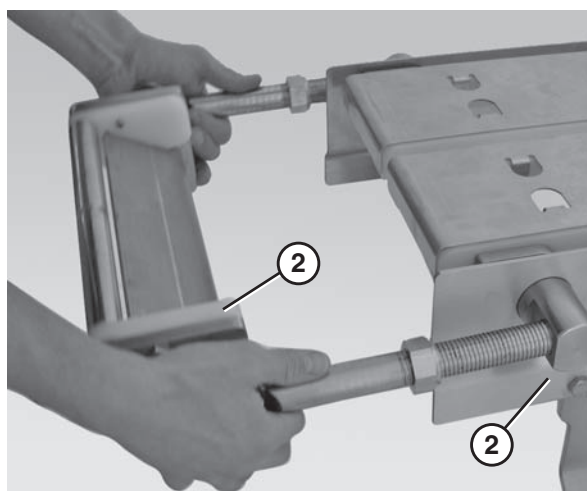

Figure 84
4. Slide the nose bar tail assembly (**Figure 84, item 1**) out of the take up blocks (**Figure 84, item 2**).